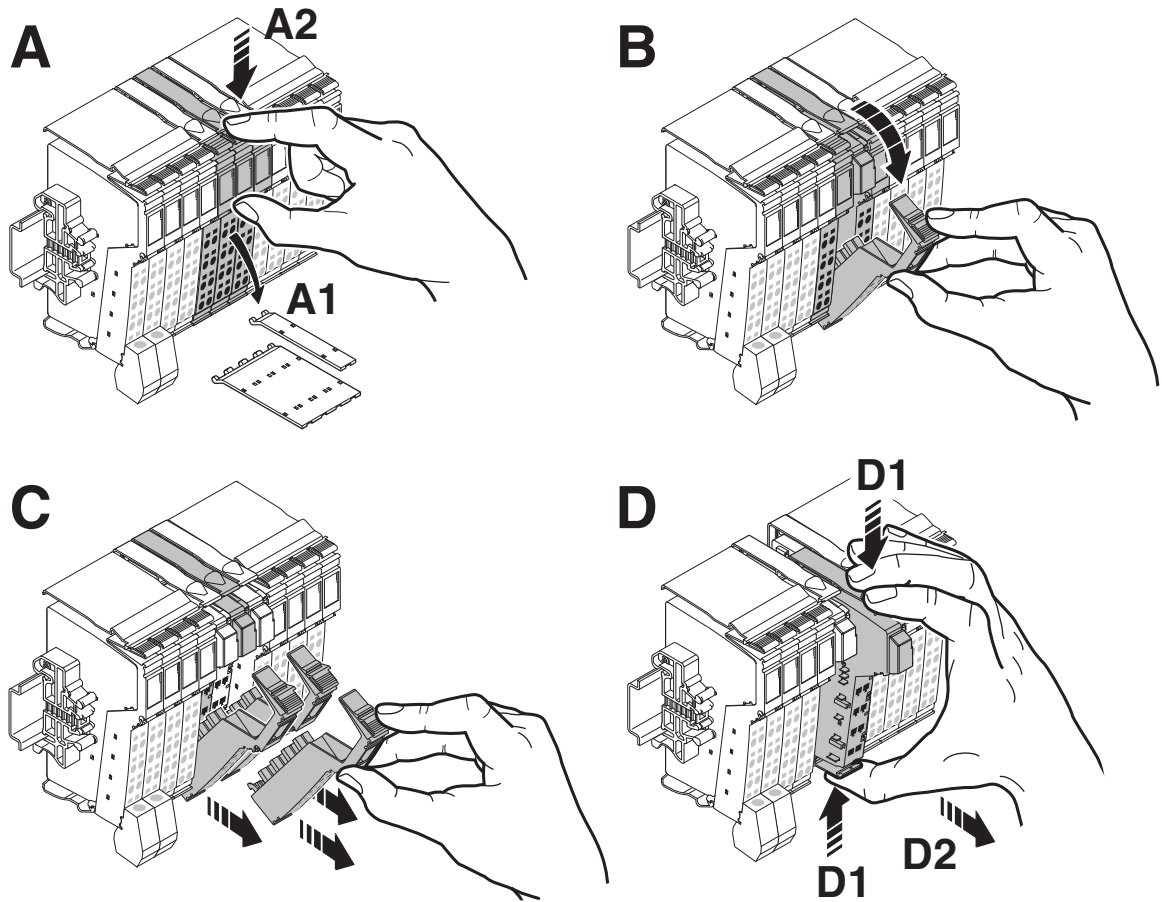

Figure 10-13 Removing a terminal
When removing a terminal, proceed as shown in Figure 10-13 on page 123:
- If adjacent terminals belong to the 24 V DC or 120 V AC/230 V AC area: Remove the adjacent connectors of the neighboring terminals (Figure 10-13 on page 123). This prevents the potential routing knife contacts and the keyway/featherkey connection from being damaged.